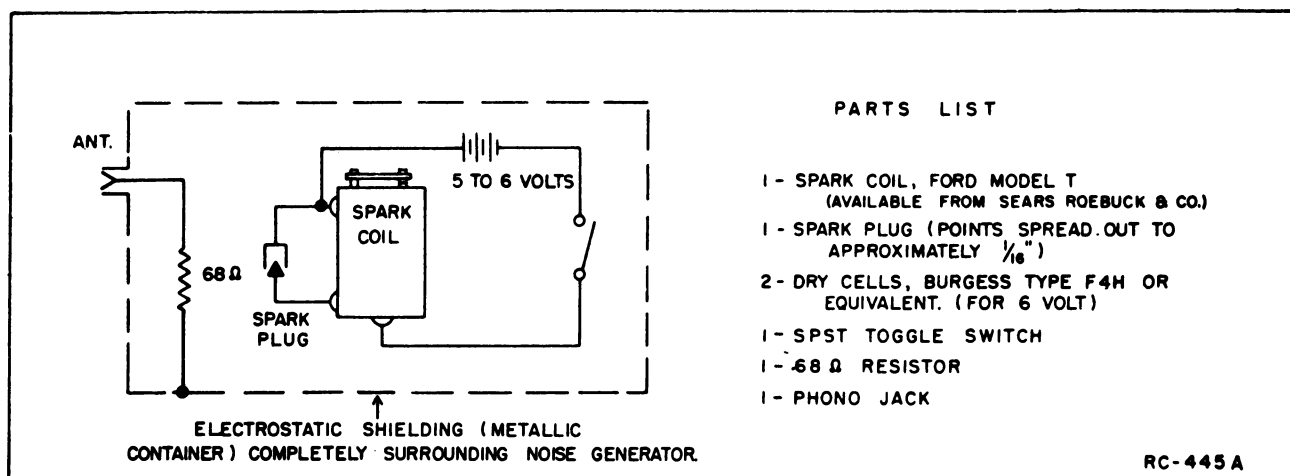

FIG. 3 - Noise Generator
4. A noise generator constructed as shown in Fig. 3.